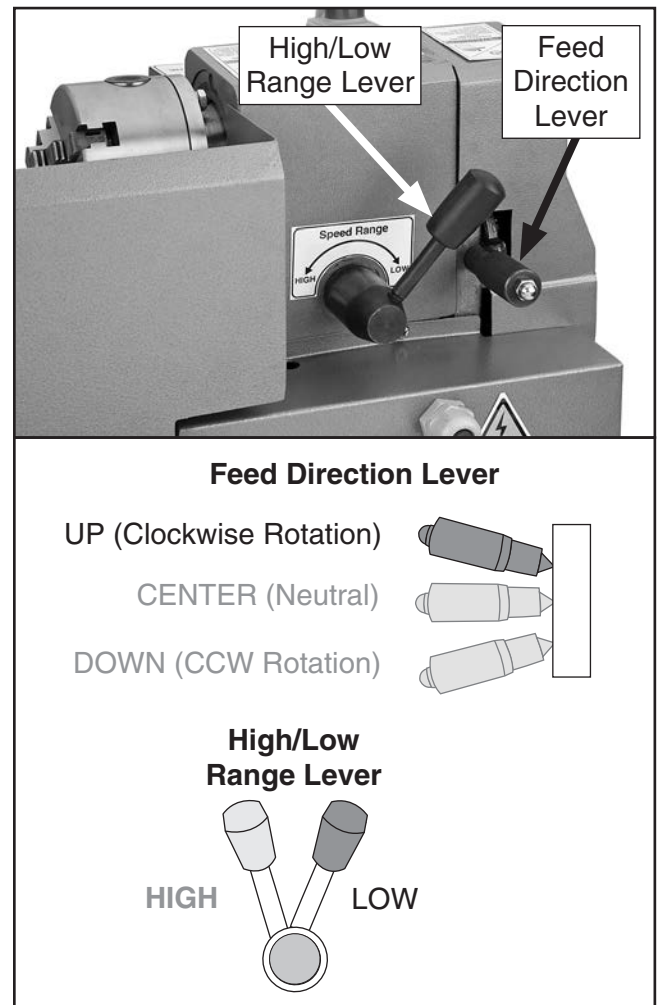

Figure 64. Lever and dial settings for 20TPI.
2. Move high/low range lever to low, and move feed direction lever all the way up, as shown in **Figure 64**.